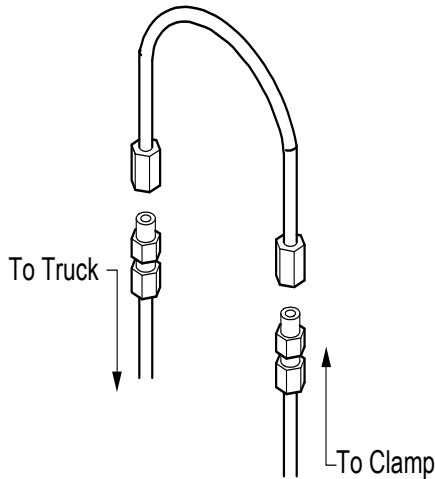

Figure 4-4, Jumper Line
2. Purging can be accomplished by installing a jumper line and operating each hydraulic function (clamp, rotate and side shift if equipped) in each direction for a minimum of 30 seconds. (Figure 4-4)